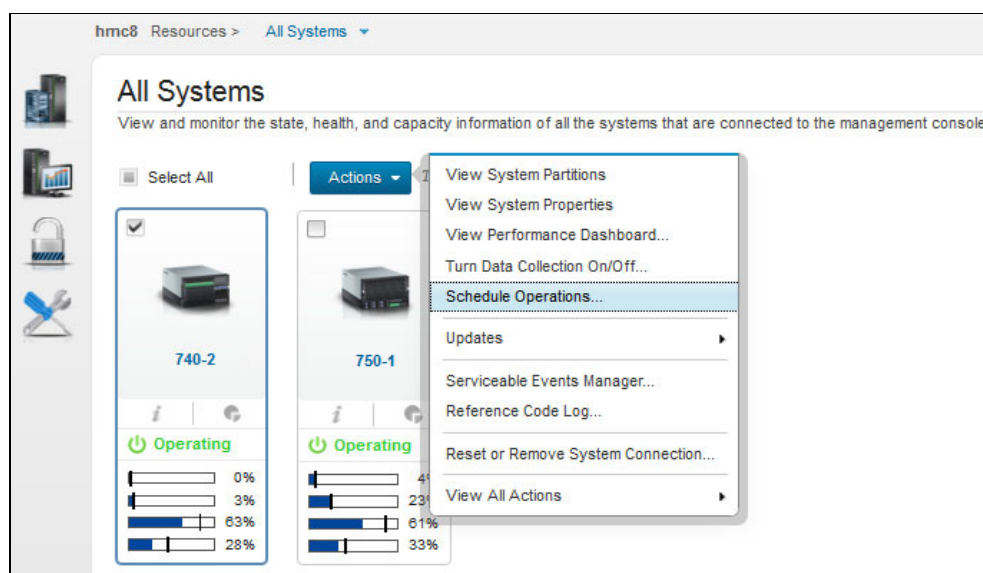

Figure 1-13 Schedule operations from the HMC Actions menu
1. In the navigation pane, click the **Resources** icon, select **All Systems**, select the server and click **Actions** → **Schedule Operations**, as shown in Figure 1-13.